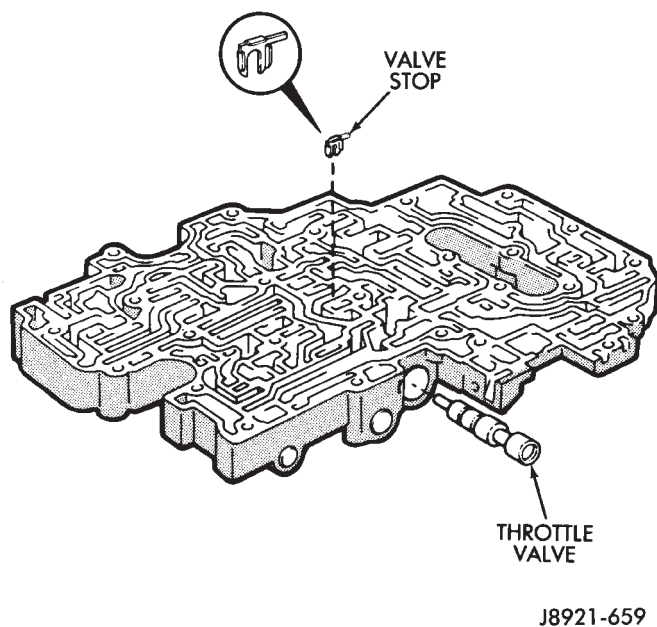

Fig. 16 Installing Throttle Valve And Stop
(11) Install throttle valve in valve bore. Push valve into place and install valve stop (Fig. 16).